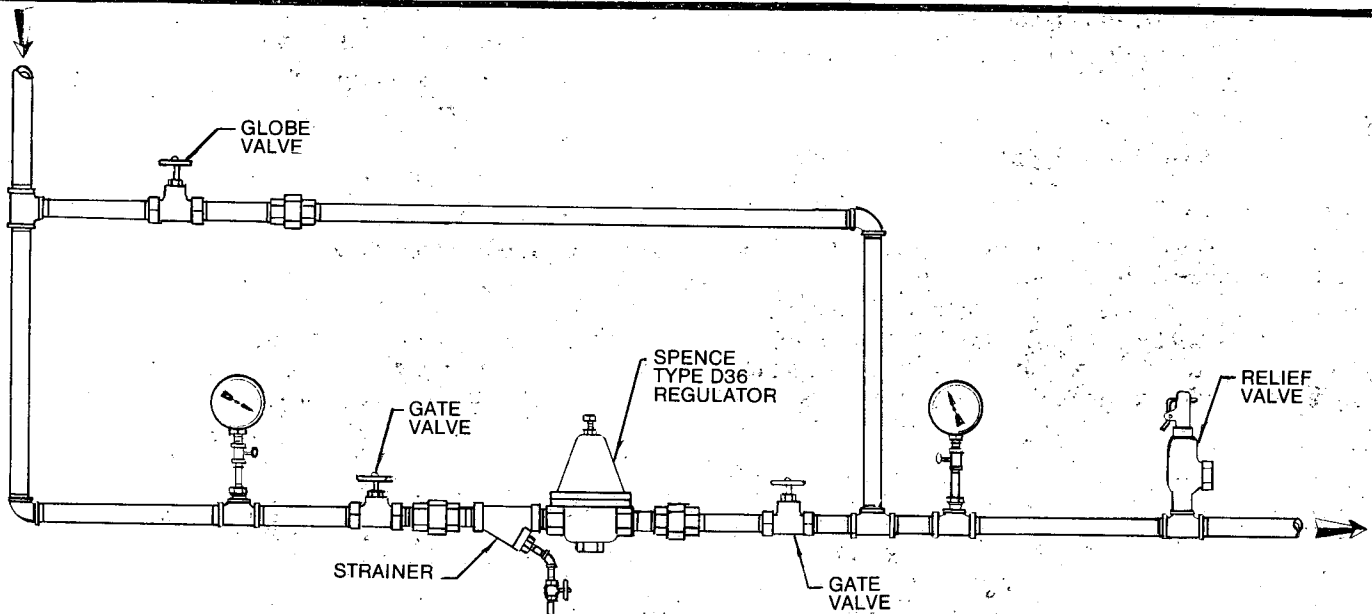

Fig. 1 - RECOMMENDED INSTALLATION OF LIQUID PRESSURE REGULATOR
1. Locate the Pressure Reducing Valve in a straight run of horizontal pipe (Fig. 1).
3. Avoid the damaging effects of scale and dirt in pipe lines by installing a Spence Y Type Strainer as shown in Fig. 1.
5. If the pressure rating of the downstream piping or connected equipment is less than the initial pressure and to protect against possible thermal expansion of the liquid, install a relief valve as shown in Fig. 1.